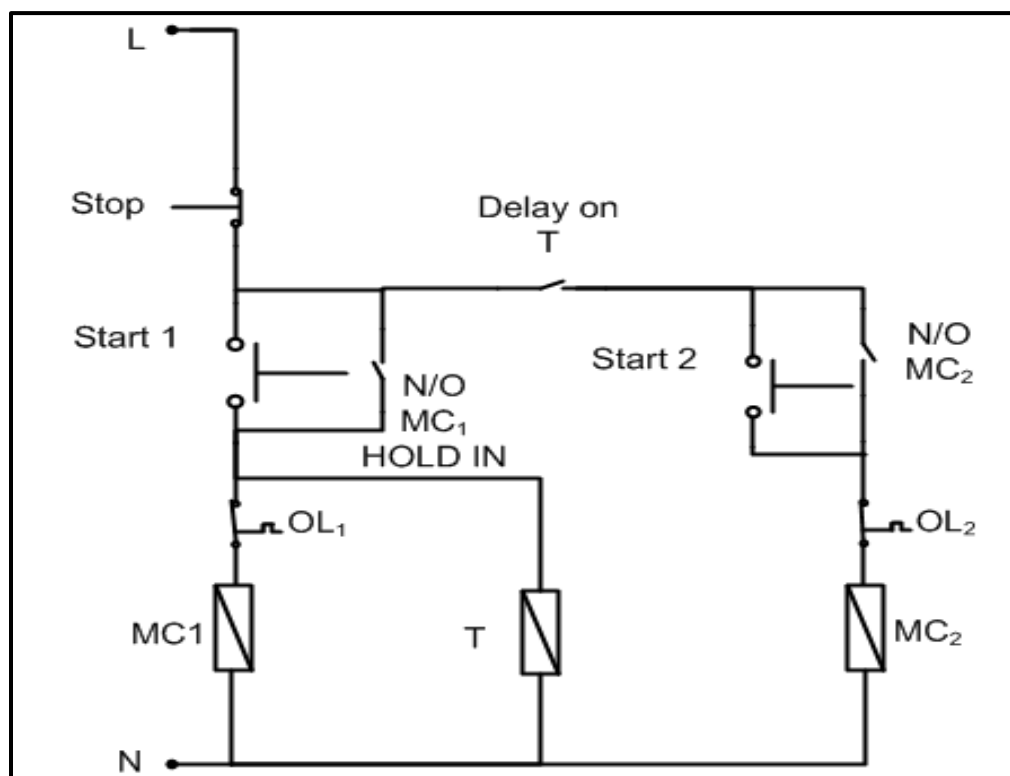

FIGURE 6.1: SEQUENCE STARTER WITH A TIMER
6.4 Refer to the circuit in FIGURE 6.1 below.
6.4.2 Name ONE electrical application of FIGURE 6.1. (1)